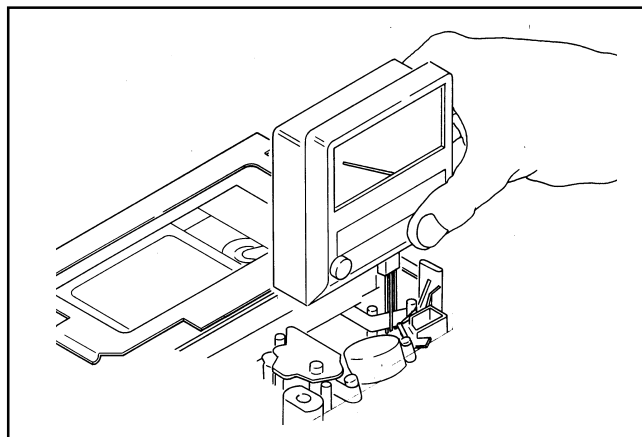

Figure 3-8-3
5. Insert the tension meter between S4 post and S5 post as shown in figure 3-8-3. (Direction is reverse)
6. Confirm that the tension value is within the specification. (Read the meter from rear side as shown in figure 3-8-3.)